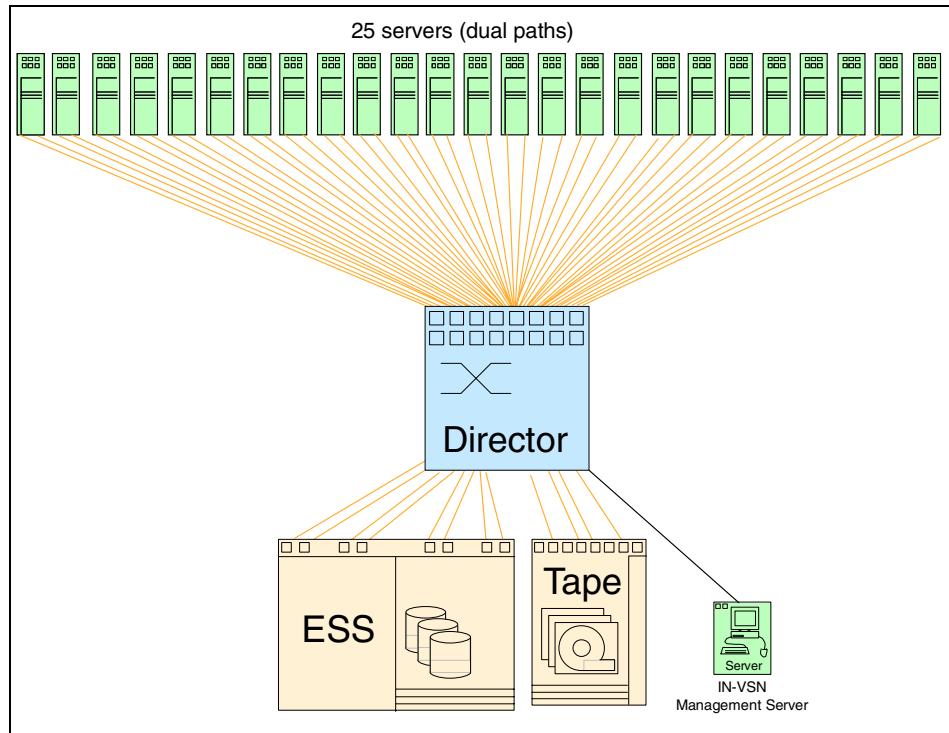
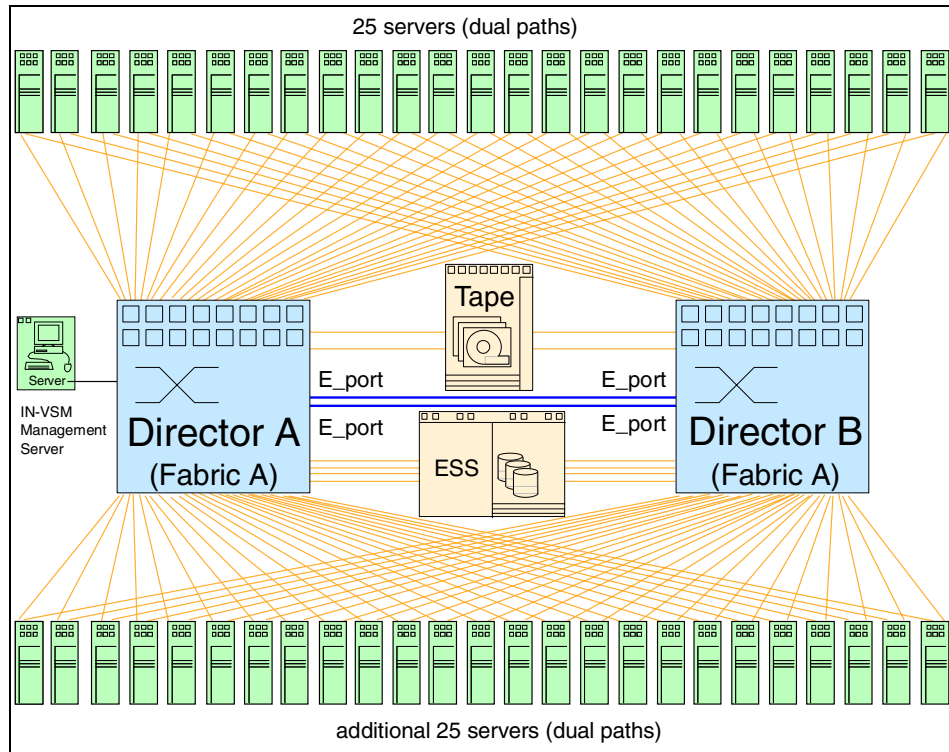

Figure 14-1 High performance design
Figure 14-2 Expanding the SAN fabric via E\_Ports
When there is little or no server performance information available, it is very difficult to work out the ratio of server ports to storage ports. The solution we show in Figure 14-1 illustrates how a general high performance profile could be applied to a SAN design using a director and a single ESS.
Based on our performance profiling, we could expand our solution and connect two directors together using dual E\_Ports, as shown in Figure 14-2. Each director now has 4 connections to the ESS and 3 connections to the tape library. We have now created a higher availability SAN that could support 100 device connections (assuming 50 servers with dual HBAs) attached. This design provides protection against any possible failure of a director.
These are some theoretical assumptions based on Figure 14-1. They assume that the director is configured with the High Availability Option:
- ▶ If the backplane was damaged, we would lose connectivity to all servers at that site. The solution in Figure 14-2 provides protection against a backplane failure.
- ▶ For both Figure 14-1 and Figure 14-2, a failure in the SAN fabric itself will cause a loss of connectivity for all devices.